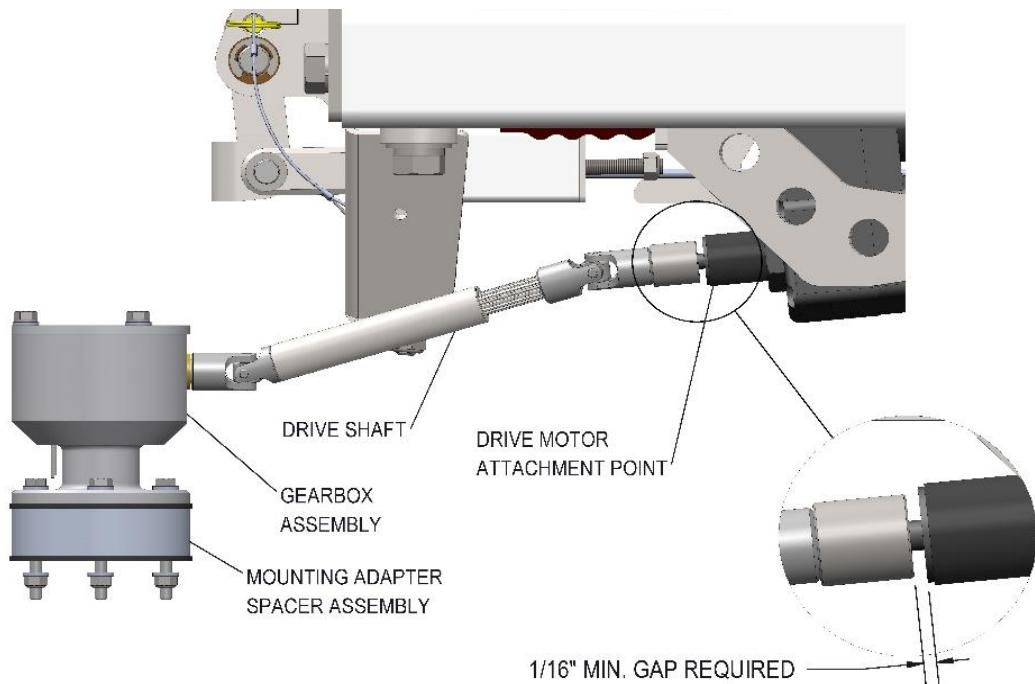

Figure 7-1: Drive Shaft – Gear Box Assembly
- c. There must be a minimum $1/16"$ $\pm 1/32"$ gap between the drive shaft coupler and motor housing when installed. This gap should be maintained or the coupling will rub on the motor. See Figure 7-1.